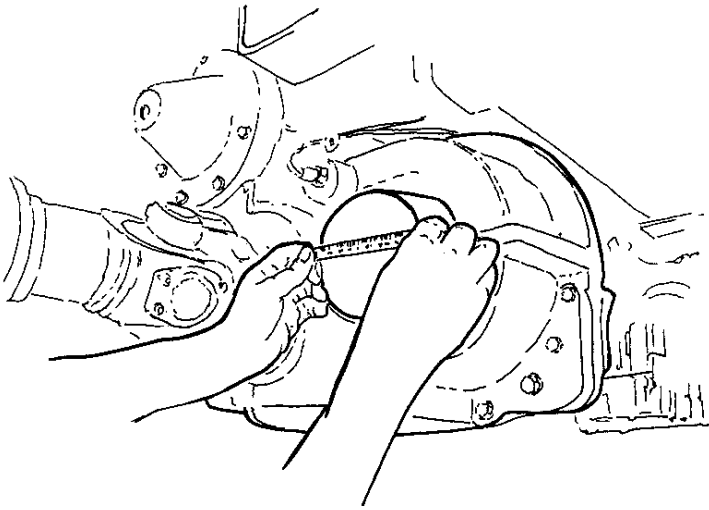
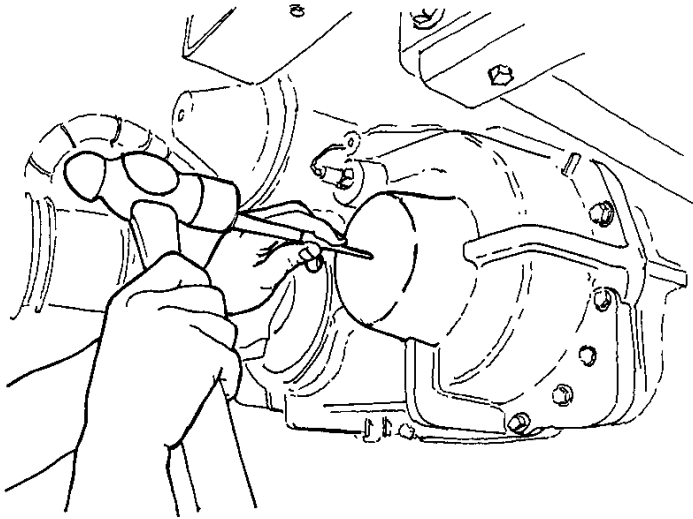

Figure 4 Locate Boss Center
Figure 5 Center Punch Boss
5. Locate the center of the boss (Figure 4) and center punch (Figure 5).